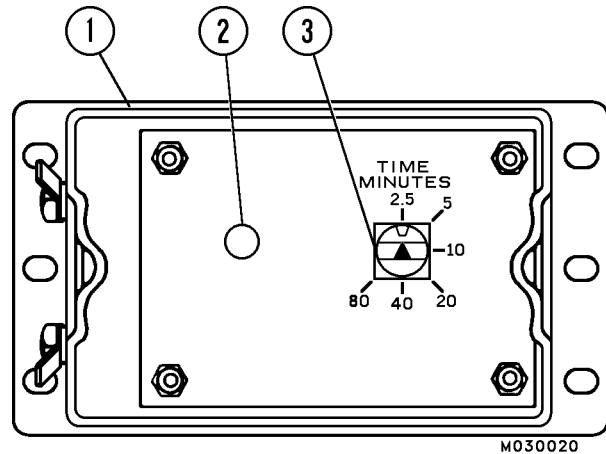

FIGURE 4-8. TIMER
2. Adjust timer selector (3, Figure 4-8) to 5 minute interval setting.
The timer is factory set for a nominal 2.5 minute (off time) interval. Dwell time is approximately 1 minute, 15 seconds. A longer interval (off time) is obtained by turning the Selector knob (3, Figure 4-8) to the desired position.